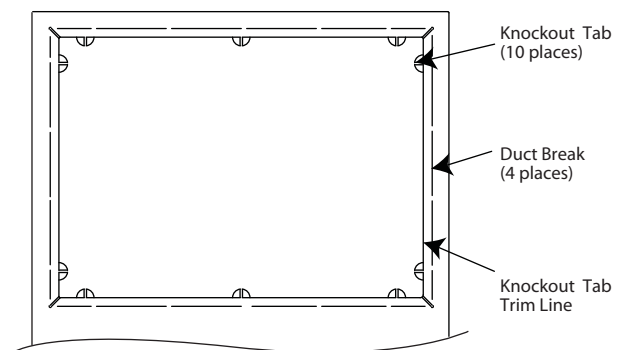
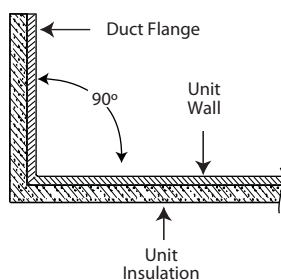

Figure 23
Figure 24
3. Use a sharp retractable knife to trim insulation using center knockout slot/trim line as pattern (see Figure 23).
4. Use a sharp standard needle nose pliers and grab knockout tab (see Figure 23).
9. Use duct pliers (hand seamers) to fold duct flange out of the unit 90° for each side of the supply air opening along duct break (see Figure 23). The 90° flanges can now be used as drywall stops to prevent coverage of discharge opening (see Figure 24).